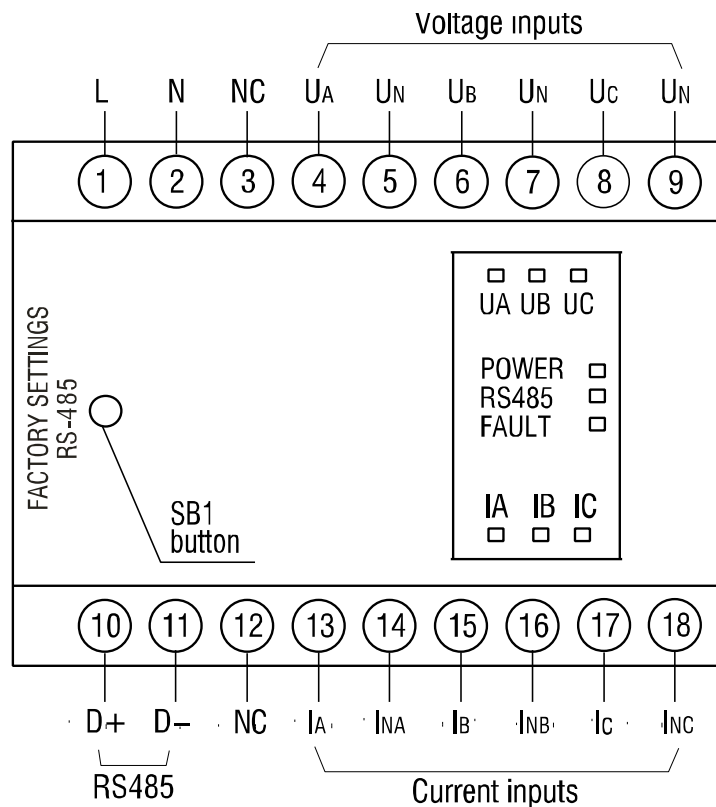

Fig. 4.1
There is the SB1 button "Factory settings" behind the left front cover (Fig. 4.1). With this button the default settings of the RS485 interface can be restored.
- The electrical connections are shown in Fig. 4.1 and the terminal assignments in Table 5.1.